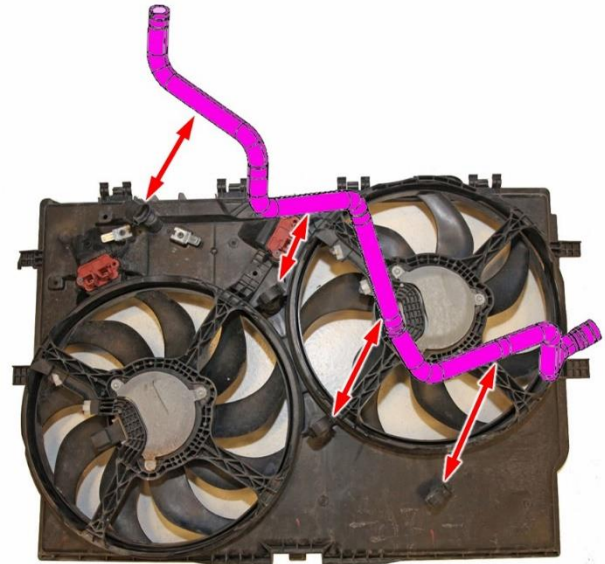

Figure 13 – Coolant Recovery Hose
10. The following cooling fan module steps may be performed together; some connectors or retainers may be more easily accessible from above or below. Disconnect any that are accessible from above first then raise and support the vehicle to access those accessible from below (Figures 13 through 15).
- From above or below as necessary, release the coolant recovery hose from the four retainers on the fan module (Figure 13).
17. As necessary, transfer any coolant recovery hose retainers from the old cooling fan module to the **NEW** cooling fan module (Figure 13).
25. The following cooling fan module steps may be performed together; some connectors or retainers may be more easily accessible from above or below. Connect any that are accessible from below first then lower the vehicle to access those accessible from above (Figures 13 through 15).
- From below or above as necessary, install the coolant recovery hose to the four retainers on the fan module (Figure 13).